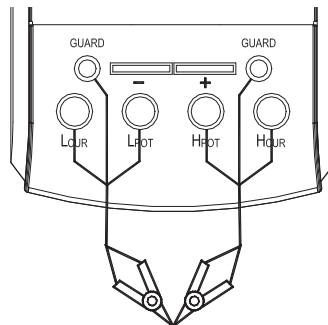

Figure 7
- b When using $L_{CUR}/L_{POT}/H_{POT}/H_{CUR}$ terminals, insert the black and red testing lines with alligator clip into the " L_{CUR} ", " L_{POT} " terminal and " H_{CUR} ", " H_{POT} " terminal respectively. Connect the mouth of clips. (shown in figure 7).